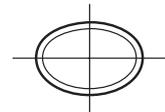

Fig. 11
- The pipe to be machined should be cut square, have no step difference, and be free of deformities. If the pipe end is slanted or has a step difference, or if the pipe is deformed, it cannot be machined to the correct size of groove. (Fig. 11)